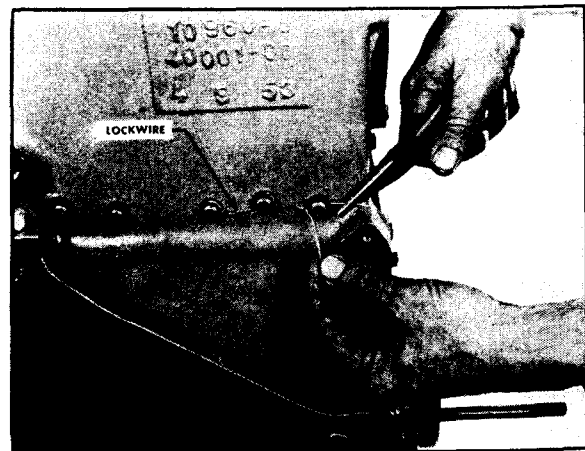

Fig. 12-42. Locking tappet guides
4. Lock the tappet guides with safety wire. Fig. 12-42.